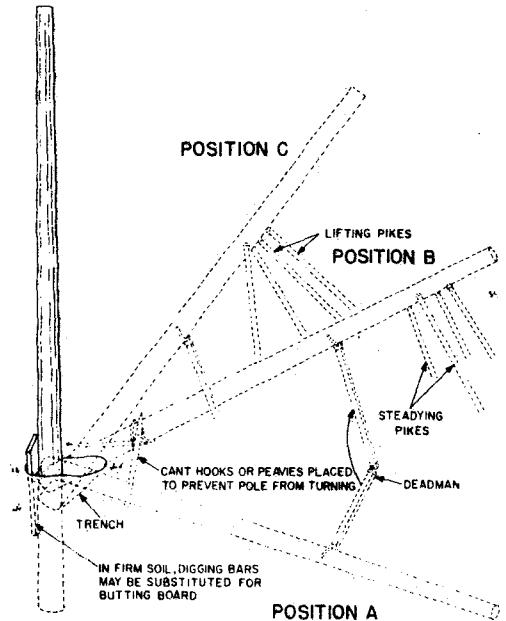

Fig. 13—Raising Medium Weight Pole with Deadman and Pike
at a point where it will not slip when the pole is lifted and the weight is supported by the deadman as shown in Position A of Fig. 13. Station a workman to guide the deadman as the pole is lifted and prevent it from slipping along the pole or at the foot. The workman handling the deadman should, at all times, avoid standing directly under the pole.
- (4) Lift pole and deadman to Position B (Fig. 13). If pole is brought into place on a pole dolly, lift top of pole and place deadman underneath. The butt of the pole should be in the trench prepared for it.
- (5) Use 2 cant hooks or peavies, one to pull against the other as a means of preventing the pole from turning as it is being raised. Place the cant hooks or peavies about 2 feet above probable ground line. Station a workman to hold the hooks as the pole is being raised.
- (6) Place pike poles near the top of pole, one considerably to each side to assist in the lifting and to steady the pole as it rises and the others slightly to one side to do the greater part of the lifting. At this stage, the steadying
- (7) Raise the pole, then move the deadman down until it supports the pole again. (Fig. 13 Position C.) In changing the location of the deadman, keep it in instant readiness to support the entire weight of the pole. (Pole may be lifted from Position B to Position C by hand, if more convenient.)
- (8) Apply pikes further down the pole. (Position C.) Shift the pikes one at a time. Raise the pole again. When the pole passes the 45° angle, the men on lift pikes may work to better advantage if they use one hand to support the butt of the pike at the level of the shoulder and the other hand to guide the pike.
- (9) Repeat this operation until the pole can be piked directly into the hole. When the pole